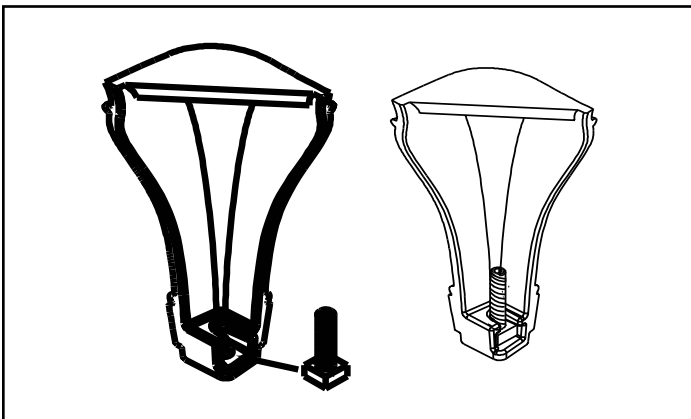
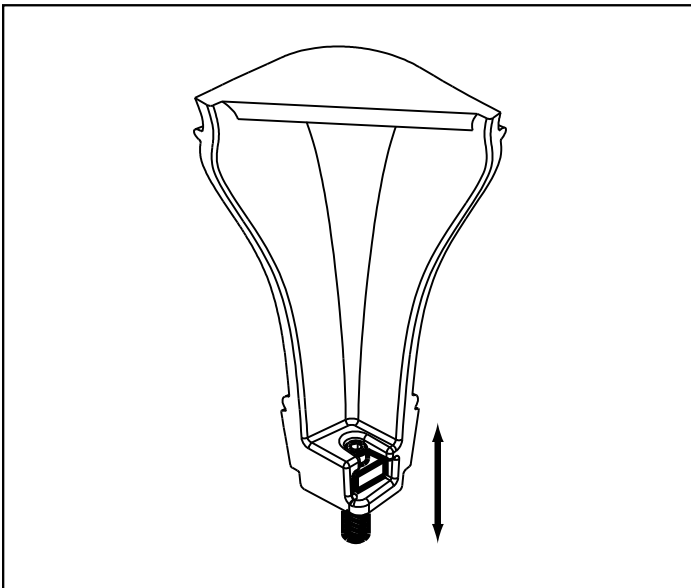

Figure 23.2
Figure 23.3 - Bolt fully extended
2. Slide assembled nuts and bolts into slots on legs with the nuts on the bottom (**Figure 23.2**). Use a 5/32 in. (3.96mm) Allen wrench to adjust legs up and down to desired level (**Figure 23.3**).